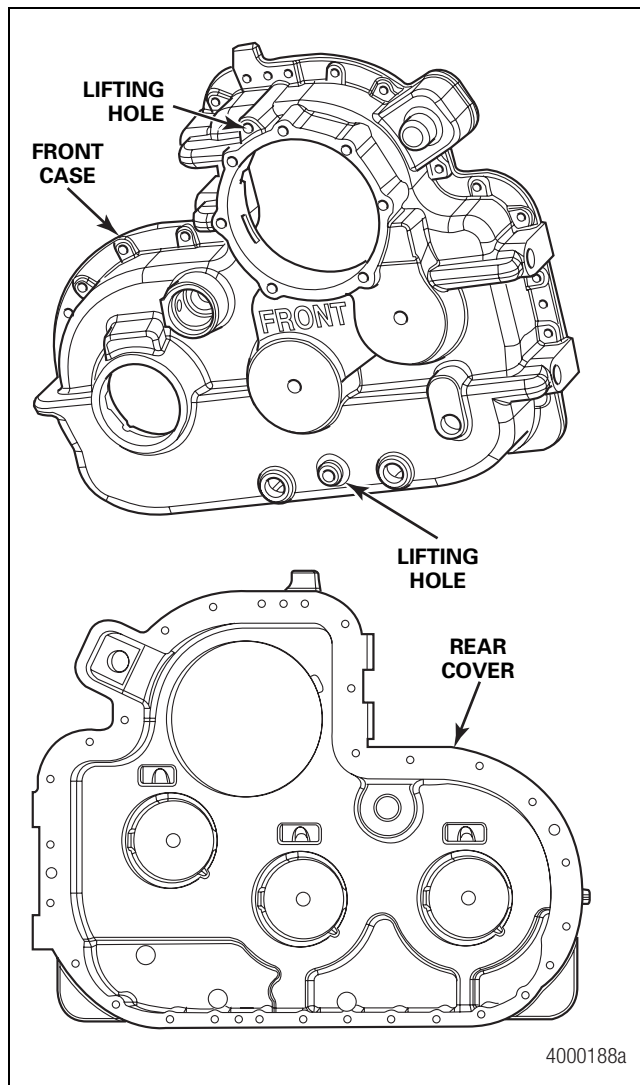

Figure 3.3
13. Install eye-bolts in the lifting holes located in either half of the transfer case housing. Lifting holes are located at the top and bottom of each half of the transfer case near the center. Figure 3.3.